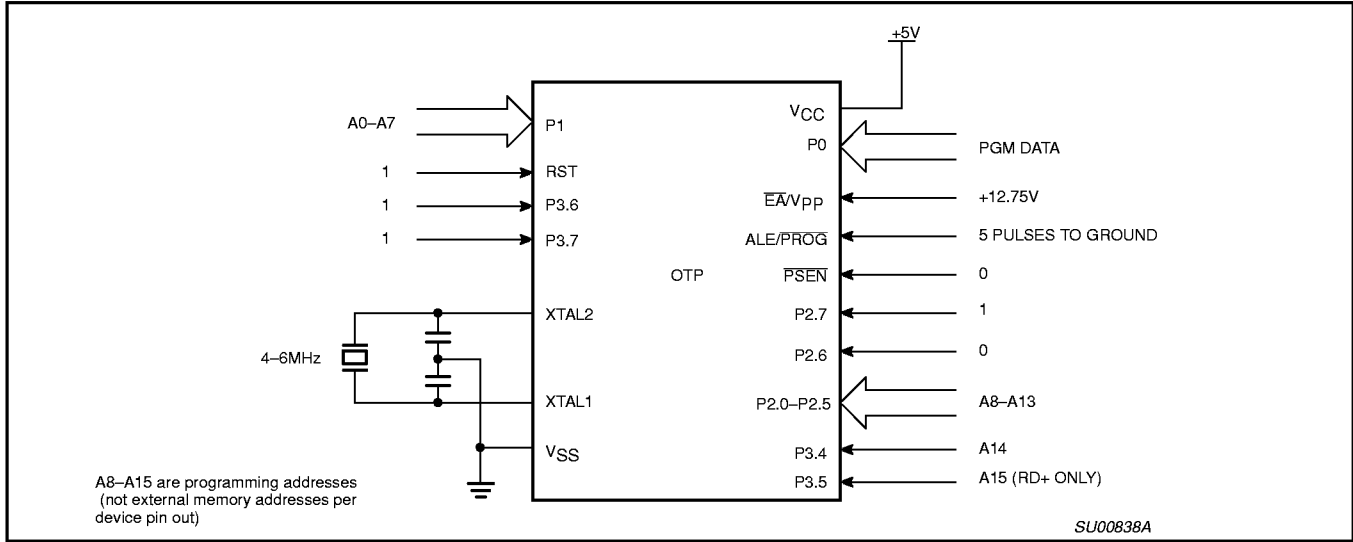
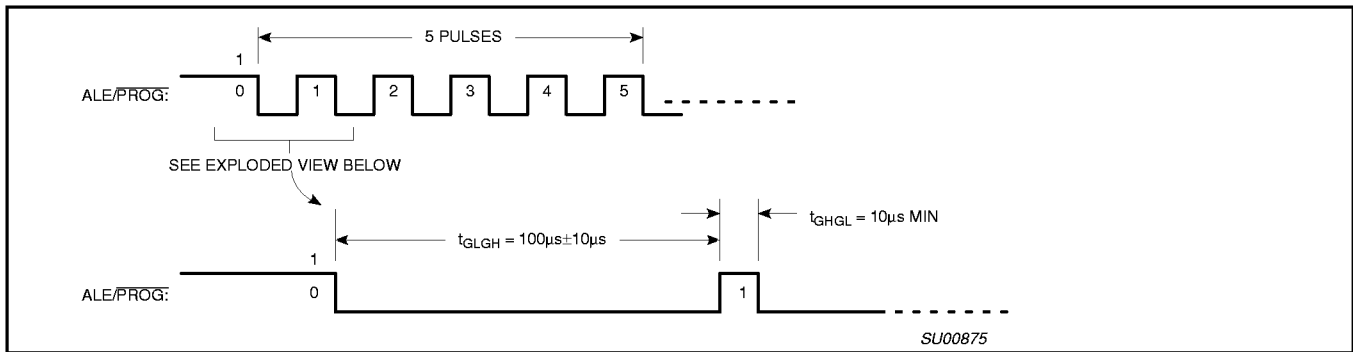
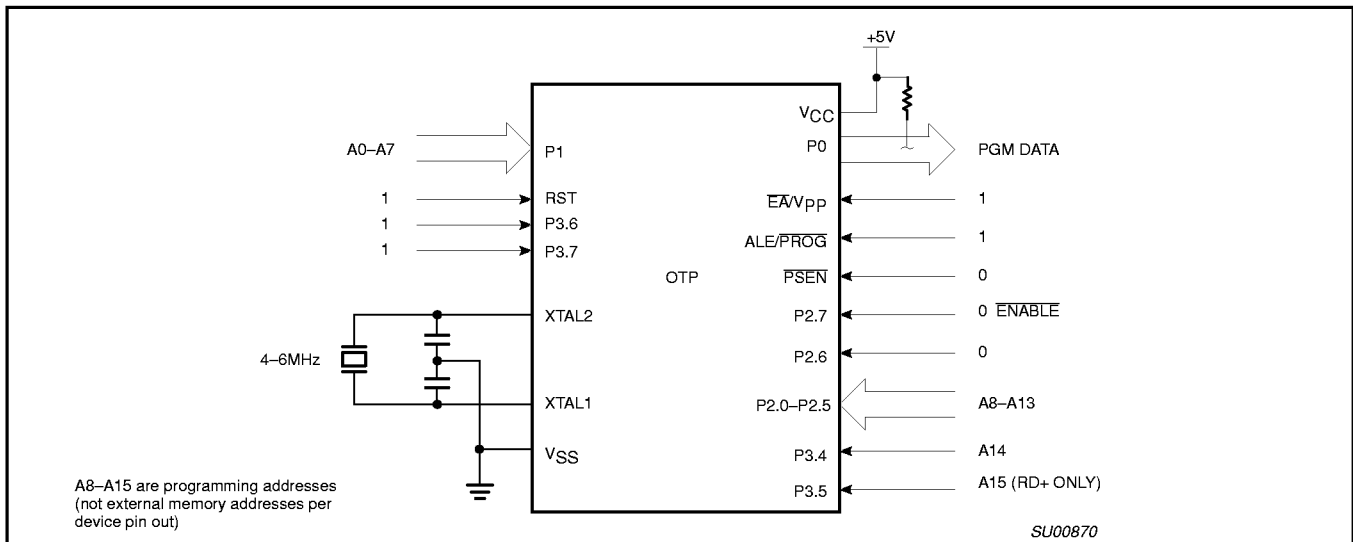

Figure 41. Programming Configuration
Figure 42. PROG Waveform
Figure 43. Program Verification
Table 9 shows the logic levels for reading the signature byte, and for programming the program memory, the encryption table, and the security bits. The circuit configuration and waveforms for quick-pulse programming are shown in Figures 41 and 42. Figure 43 shows the circuit configuration for normal program memory verification.
The setup for microcontroller quick-pulse programming is shown in Figure 41. Note that the device is running with a 4 to 6MHz oscillator. The reason the oscillator needs to be running is that the device is executing internal address and program data transfers.
The address of the EPROM location to be programmed is applied to ports 1 and 2, as shown in Figure 41. The code byte to be programmed into that location is applied to port 0. RST, PSEN and pins of ports 2 and 3 specified in Table 9 are held at the 'Program Code Data' levels indicated in Table 9. The ALE/PROG is pulsed low 5 times as shown in Figure 42.
address of the program memory locations to be read is applied to ports 1 and 2 as shown in Figure 43. The other pins are held at the 'Verify Code Data' levels indicated in Table 9. The contents of the address location will be emitted on port 0. External pull-ups are required on port 0 for this operation.
* FOR PROGRAMMING CONFIGURATION SEE FIGURE 41.
FOR VERIFICATION CONDITIONS SEE FIGURE 43.